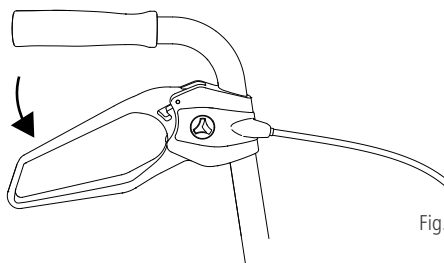

Fig. 6
1. To block the brakes (parking brakes), press the brake levers downwards (Fig 6). You will be able to tell when they noticeably snap into place.